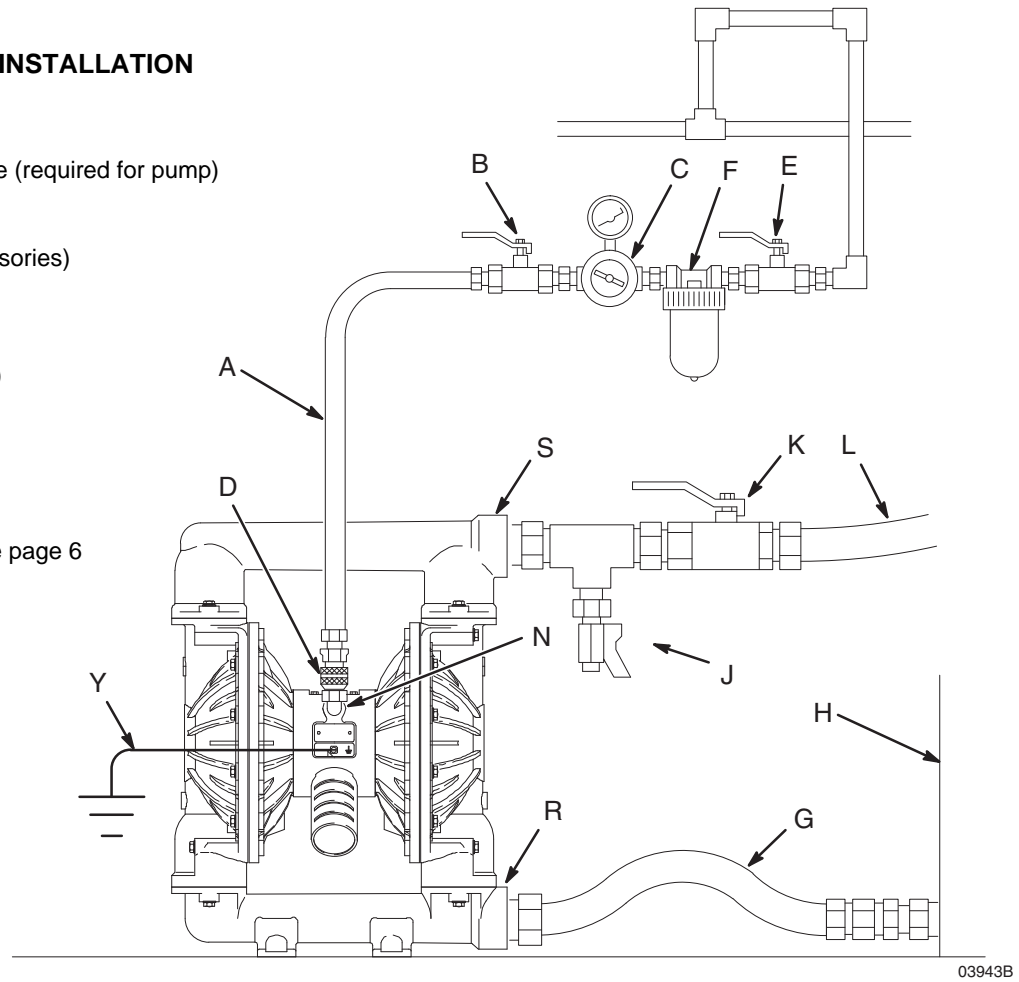

FIG. 2
A bleed-type master air valve (B) is required in your system to relieve air trapped between this valve and the pump. Trapped air can cause the pump to cycle unexpectedly, which could result in serious injury, including splashing in the eyes or on the skin, injury from moving parts, or contamination from hazardous fluids. See FIG. 2.
1. Install the air line accessories as shown in FIG. 2. Mount these accessories on the wall or on a bracket. Be sure the air line supplying the accessories is grounded.
- a. Install an air regulator (C) and gauge to control the fluid pressure. The fluid outlet pressure will be the same as the setting of the air regulator.
- b. Locate one bleed-type master air valve (B) close to the pump and use it to relieve trapped air. See the **WARNING** above. Locate the other master air valve (E) upstream from all air line accessories and use it to isolate them during cleaning and repair.
- c. The air line filter (F) removes harmful dirt and moisture from the compressed air supply.
2. Install a grounded, flexible air hose (A) between the accessories and the 1/2 npt(f) pump air inlet (N). See FIG. 2. Use a minimum 1/2" (13 mm) ID air hose. Screw an air line quick disconnect coupler (D) onto the end of the air hose (A), and screw the mating fitting into the pump air inlet snugly. Do not connect the coupler (D) to the fitting until you are ready to operate the pump.
A fluid drain valve (J) is required to relieve pressure in the hose if it is plugged. The drain valve reduces the risk of serious injury, including splashing in the eyes or on the skin, or contamination from hazardous fluids when relieving pressure. Install the valve close to the pump fluid outlet. See FIG. 2.
1. **Use grounded fluid hoses (L).** The pump fluid outlet (S) is 2" npt(f). Screw the fluid fitting into the pump outlet securely.
2. Install a fluid drain valve (J) near the fluid outlet. See the **WARNING** above.
3. Install a shutoff valve (K) in the fluid outlet line.
4. Place the end of the fluid hose (L) into an appropriate container.
5. Close the fluid drain valve (J). See FIG. 2.
6. With the pump air regulator (C) closed, open all bleed-type master air valves (B, E).
8. Slowly open the air regulator (C) until the pump starts to cycle. Allow the pump to cycle slowly until all air is pushed out of the lines and the pump is primed.
1. Fig. 2 and Parts Drawings. Follow preceding steps 1 through 7 of **Starting and Adjusting the Pump**.
2. Open air regulator (C).